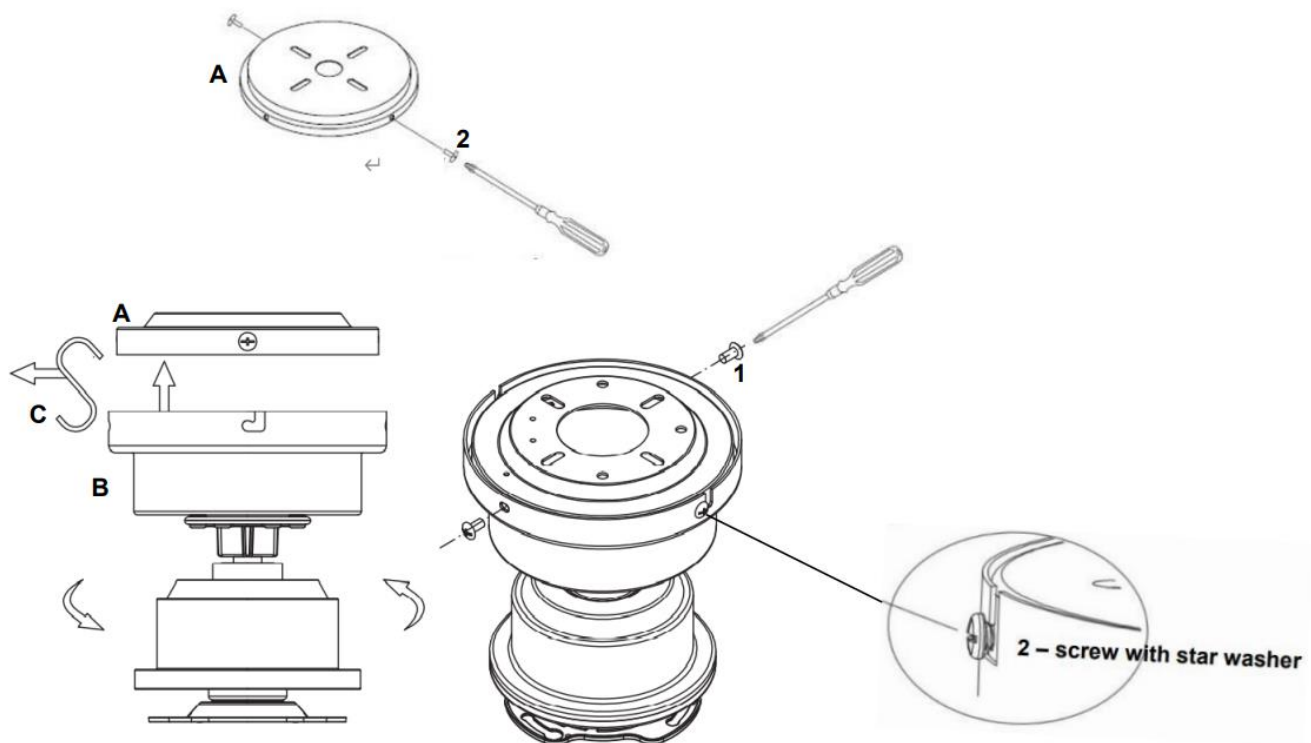

Fig. 9
Install the fan assembly to the mounting bracket (Fig.9):
- Loosen two canopy screws with star washer (2) by half thread from the mounting bracket. (For L-shape slot on canopy to be mounted).
- Remove the S-hook (C) from the mounting bracket and fan assembly
- Lift the hanging plate of the fan assembly up to the mounting bracket and let the L-shape slot on the hanging plate go through the two canopy screws with star washer (2). (Fig.9)
- Turn the hanging plate until it locks in place at the end section of the L-shape slot, ensure the star washer are between the hanging plate and screw head. Secure it by tightening the two canopy screws with star washer (2).
- Secure and tighten the canopy screws (1) to the mounting bracket. The hanging plate shall have 4 screws (1) & (2) in total. Avoid damaging the electrical wiring prepared previously when hanging the hanging plate